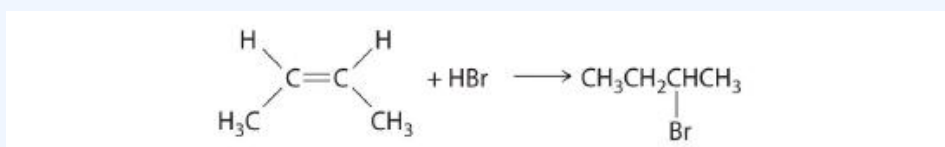

Figure 19.6j. The electrophilic addition of a HBr to 2-butene. (credit: *General Chem: Principles, Patterns, and Applications (Averill)*, CC BY-NC-SA 3.0).
2. In the addition of a hydrogen halide to an alkene, the reaction is shown in Figure 19.6j.